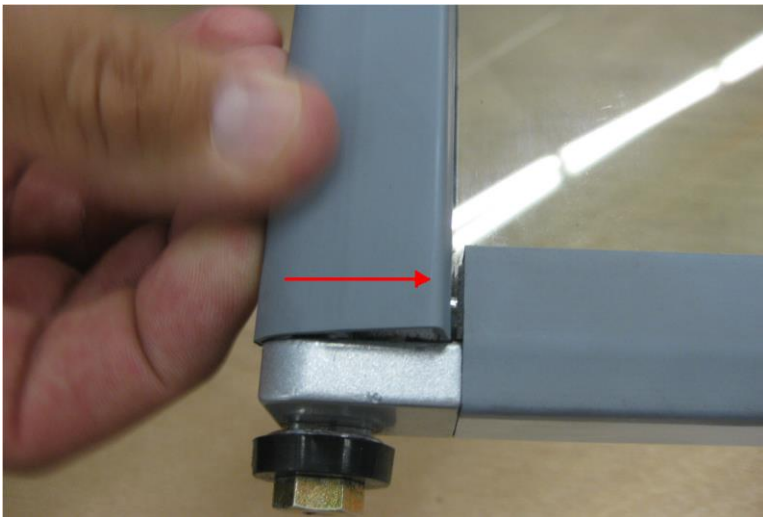

Figure 20
3. Push the plastic cover down and inward, toward the center of the door. Refer to Figure 20.